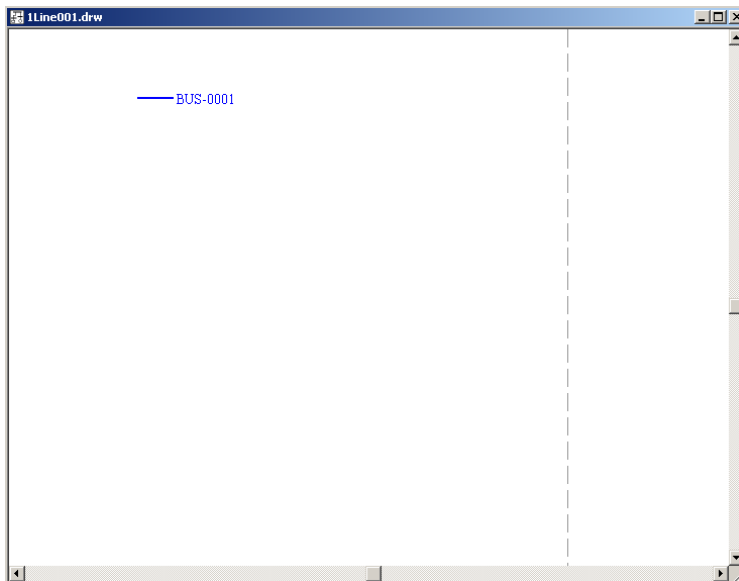

Fig. 7. Add a bus to the One-Line Diagram.
6. Let's start by adding a bus to the One-Line Diagram. Click the bus toolbar button. The mouse pointer picks up a new bus component. Move the mouse pointer over the white viewport area of the One-Line Diagram and click the left mouse button again. The mouse pointer puts down, or places, the bus component, as shown in Figure 7. A bus name is automatically assigned (changing names is easy, as we will demonstrate shortly).